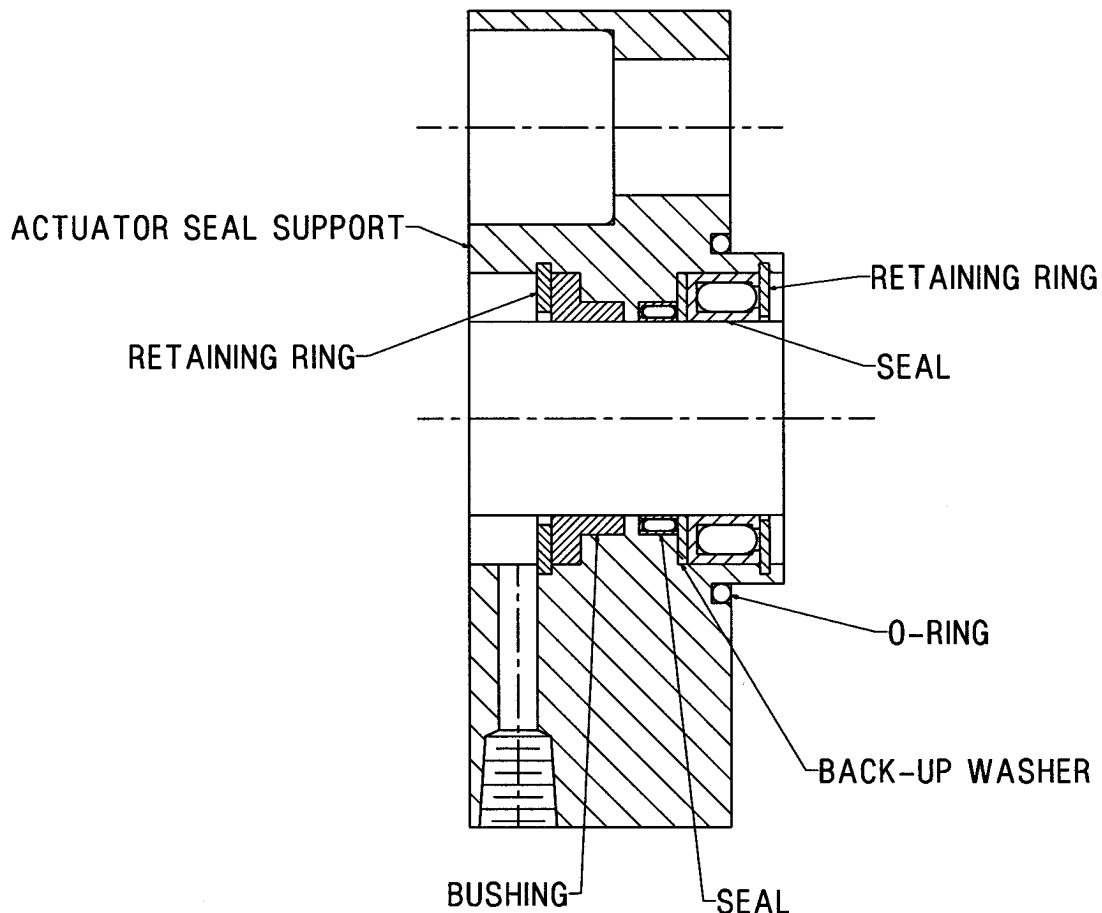

Figure 4-10. Hydraulic Seal Support Assembly
References Figures 4-10 and 4-11.
15. Referring to Figure 4-10, remove the retaining ring, seals and back-up washer from the actuator seal support. Determine the suitability of the backup washer for reuse.
Reference Figure 4-10 and 4-11.